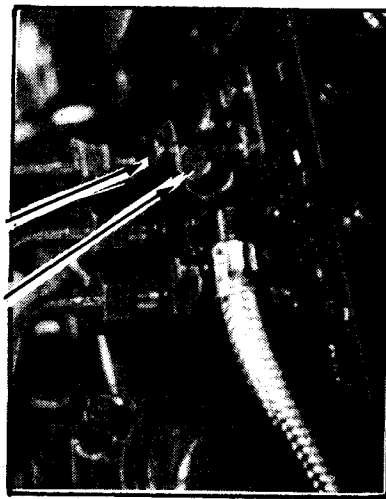

Figure 16
- b) Then, air is drained by loosening the venting screw of the injection pump and screws (3) these ones only for MINI-26 of Figure 16.